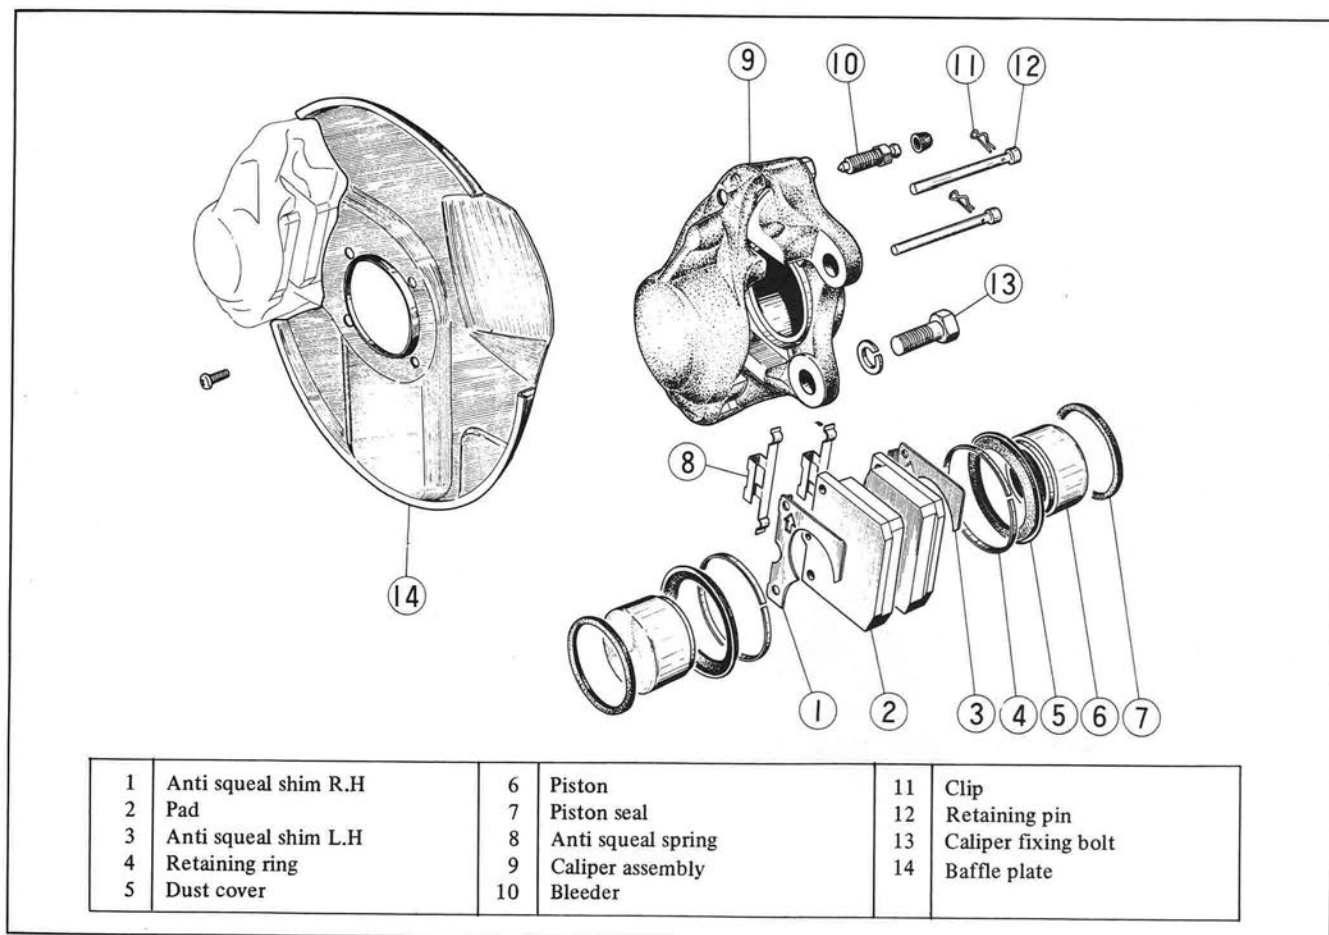

Fig. BR-15 Front disc brake
2. Remove the retaining ring ① and dust seal ② in that order. (Refer to Figure BR-15.)